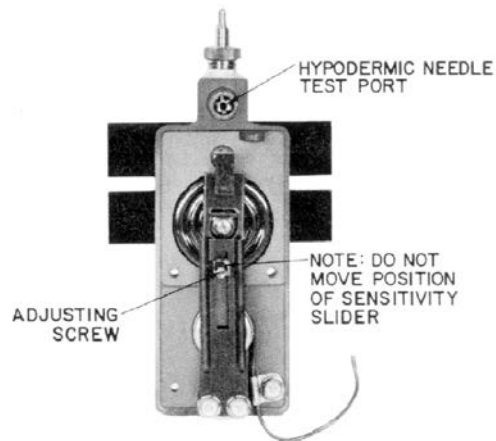

Fig. 17: T-5210 with Cover Removed
2. From the graph in Fig. 17, find the proper transmission pressure corresponding to the measured temperature. Be sure to use the vertical scale on the graph which matches the range of the transmitter.